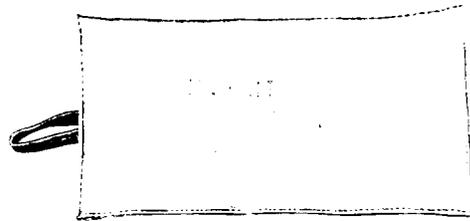

Fig. 4--AT-8924 C Canvas Bag
- 3.02 C Canvas Bag Fig. 4): An AT-8924 C canvas bag is available to carry and store the 188A test set, B temporary bond, and W1BU ground cord.